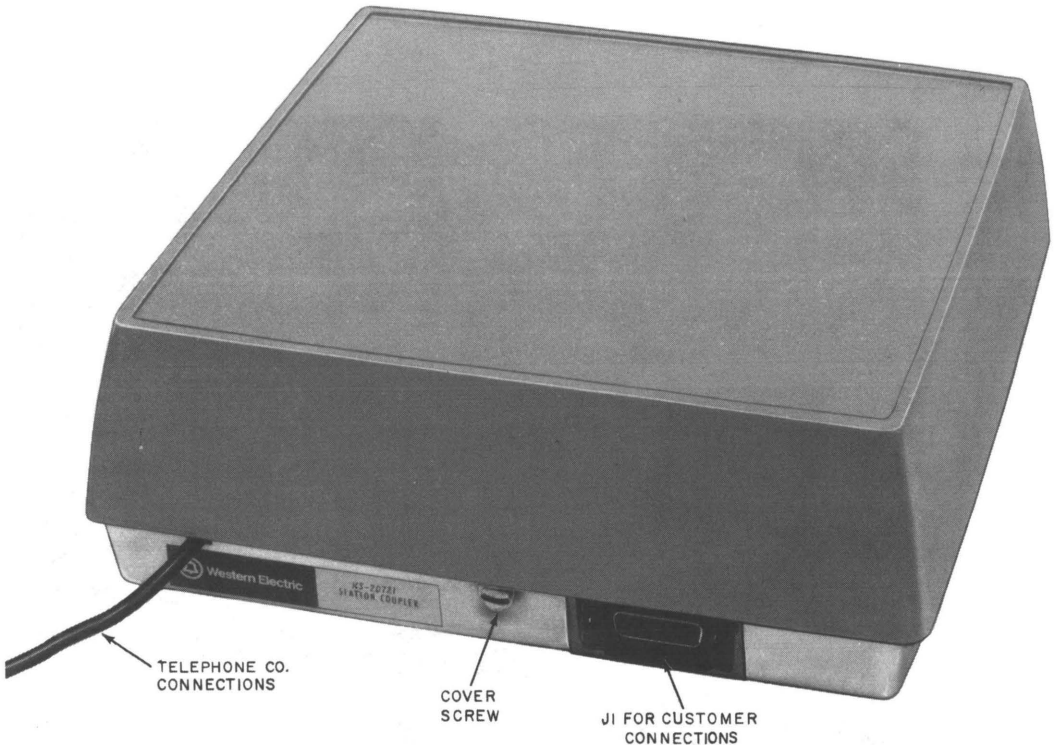
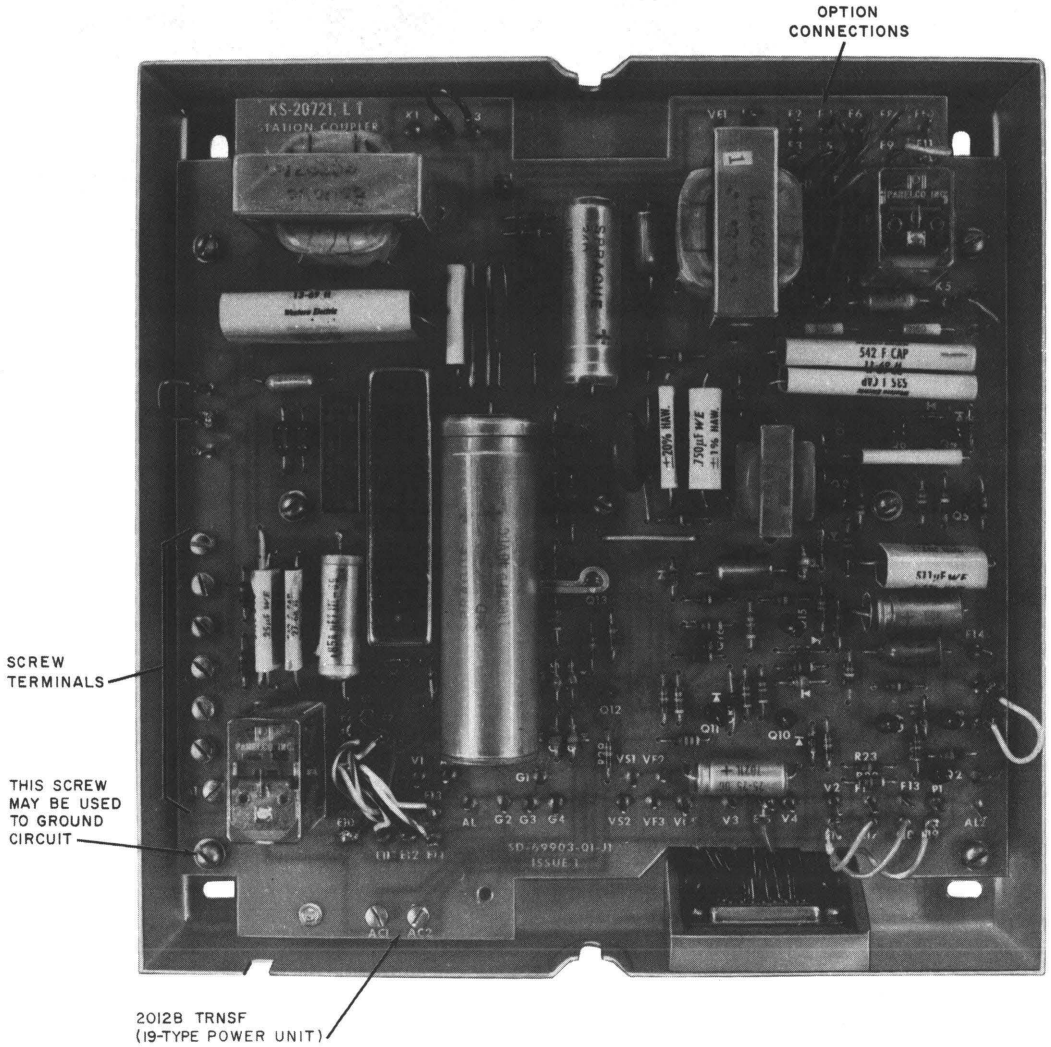

Fig. 1—KS-20721, List 1 Station Coupler
Fig. 2—KS-20721, List 1 Station Coupler, Cover Removed
- Coupler, Station, KS-20721, L1 (Fig. 1 and 2).
**3.02** A 15-pin connector (J1, Fig. 1) is located on the base of the unit to connect the pulsing and muting leads to the CPE by means of a CP cable equipped with an ITT-Cannon Electric or Cinch Manufacturing Company plug No. DA-19603-403 with hood No. DA-51225-1. Screw terminals on the left side of the printed circuit board (Fig. 2) provide connections to the dial and receiver of the telephone set and 2012B power transformer (or power supply). Flexible jumper leads with connectors provide for installation options.